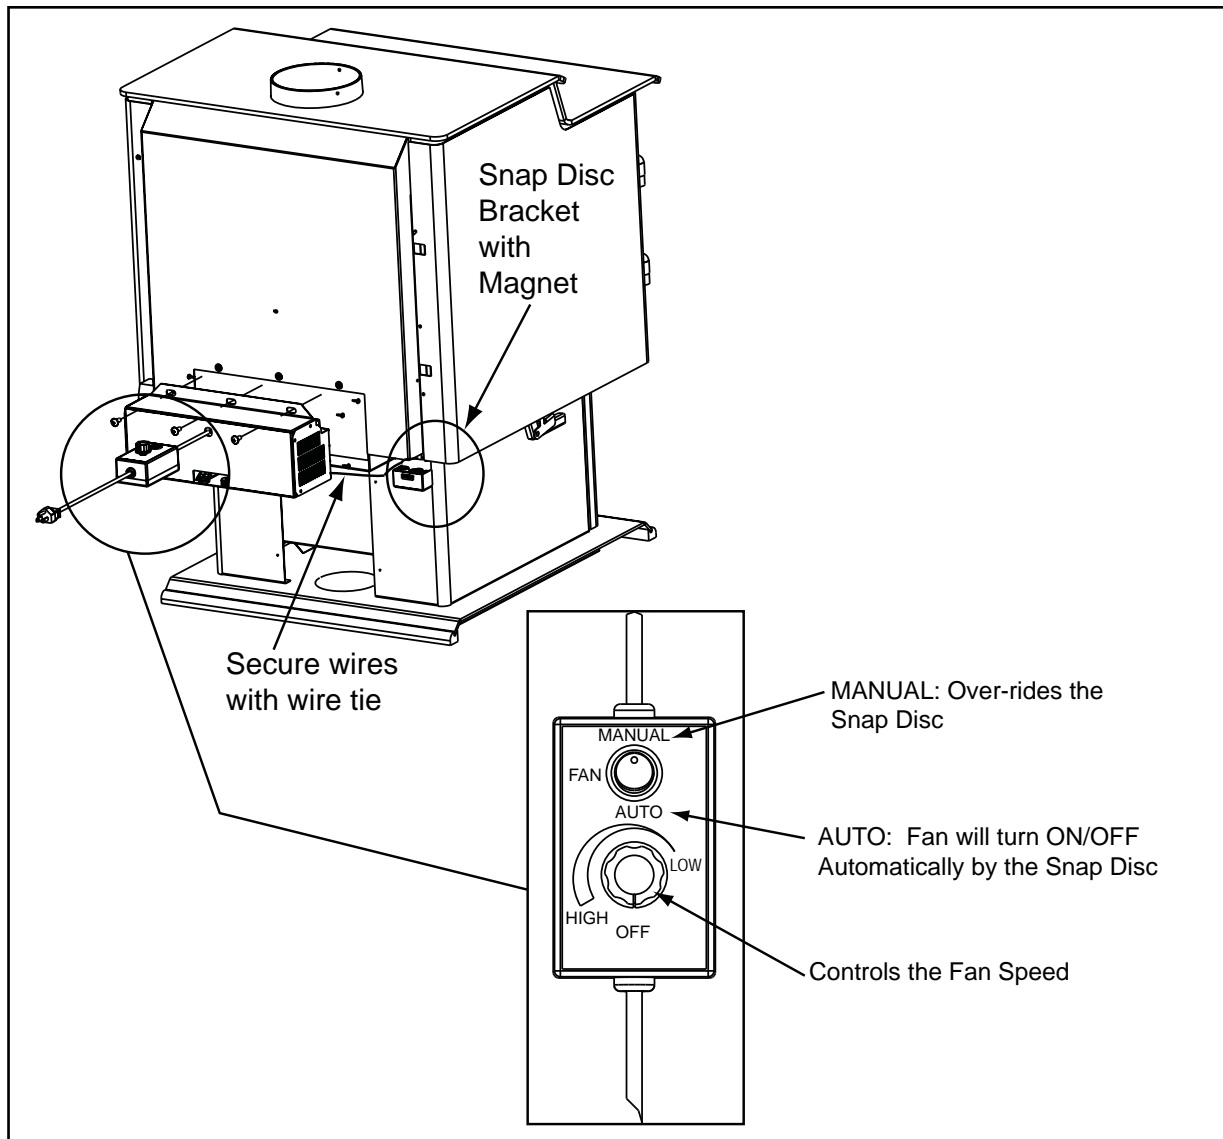

Figure 23.1
1. Align holes in mounting flange of blower with bolt holes in appliance. Blower should be positioned at bottom of rear outer skin as shown in **Figure 23.1**.
3. Place the bracket containing the snap disc and magnet under the bottom left rear corner as shown in **Figure 23.1**.